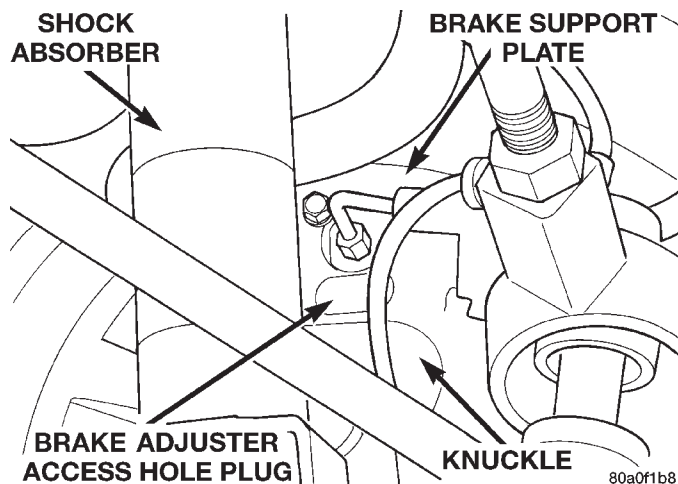

*Fig. 56 Automatic Adjuster Access Hole Plug*
(1) Remove the rubber plug (Fig. 56) from the brake support plate.